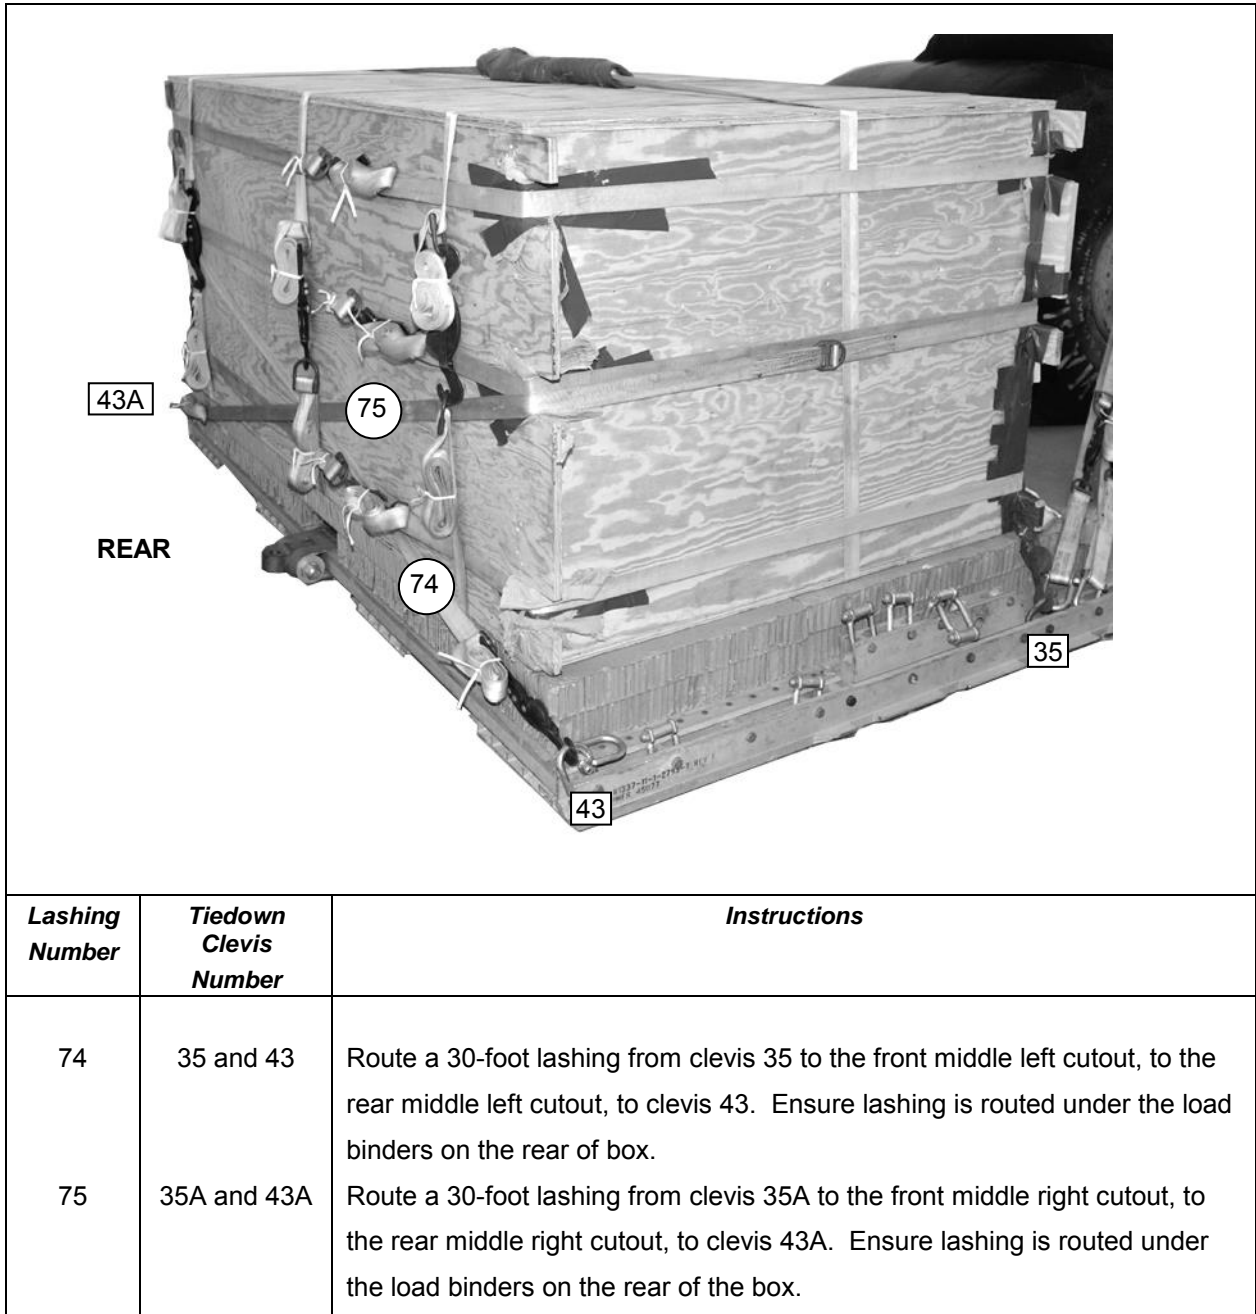

Figure 24-18. Lashings 74 and 75 Installed
24-10. Lash the equipment boxes as shown in Figures 23-23 through 23-25 and Figures 24-18 through 24-20.
- Lash the front equipment box to the platform as shown in Figures 24-18 through 24-20.